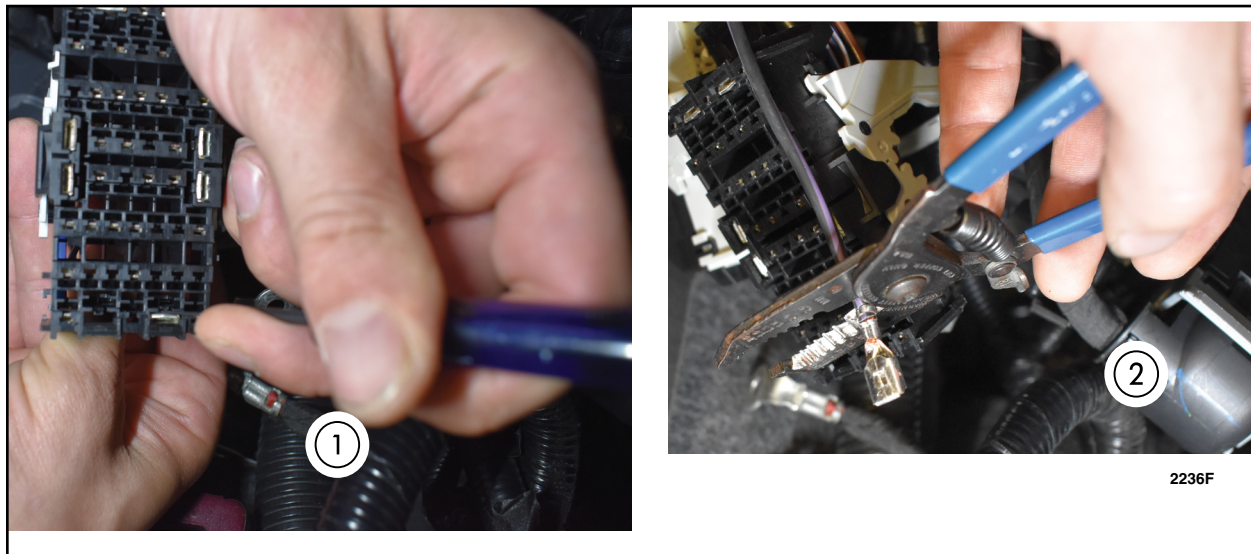

FIGURE 20
22. Remove the black-violet wire located in cavity 47 from the C1035B connector using a terminal tool. Cut terminal end off of wire. See Figure 20.